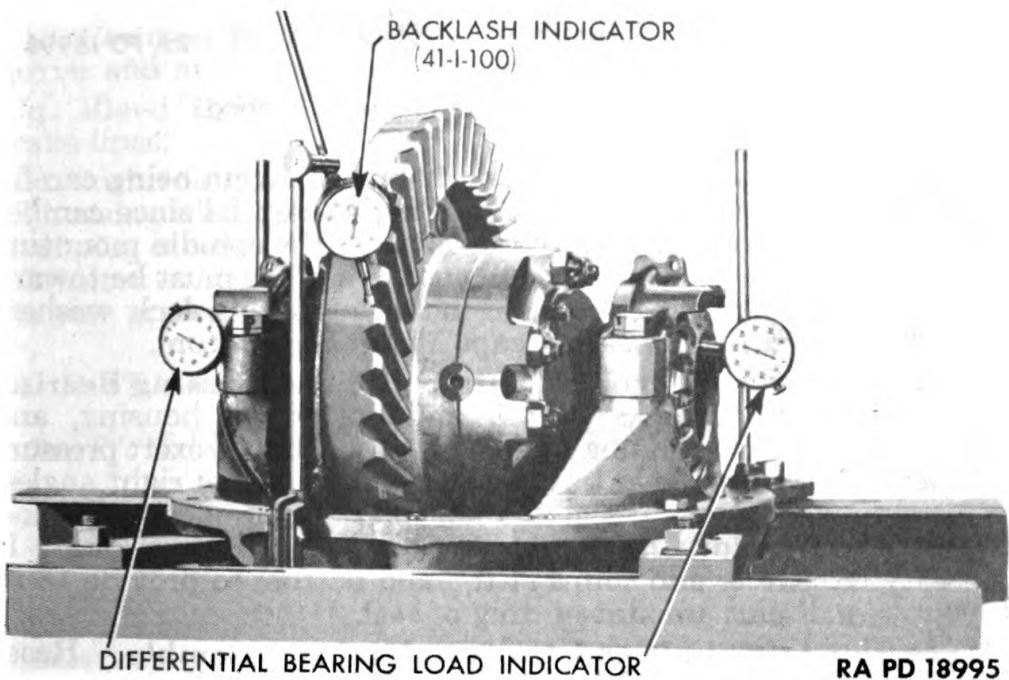

Figure 73 — Differential Bearing and Gear Backlash Adjustment
e. **Adjust Differential in Carrier.** Mount three dial indicators on carrier flange, having one pointer against each carrier bearing and the third one so installed that gear backlash can be measured (fig. 73). Adjust carrier bearing adjusters to provide specified backlash (measurement marked on side of gear). Set the two side dial indicators at zero. Now tighten each adjuster to provide 0.006- to 0.010-inch movement on the indicator dial at each bearing, or a total of 0.012- to 0.020-inch movement. This places a preload on the bearings. NOTE: *This is generally about a notch on each adjuster.* Tighten carrier bearing cap bolts, install adjuster locks and cotter pins, and install carrier bearing cap bolt lock wires.